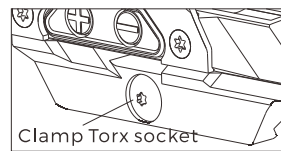

Fig 5
1. There is one Torx socket at the end of clamp adjusting bolt on the side of the mount. (See Fig 5) Before installation, loosen the bolt to loosen the clamp using the included Torx wrench.